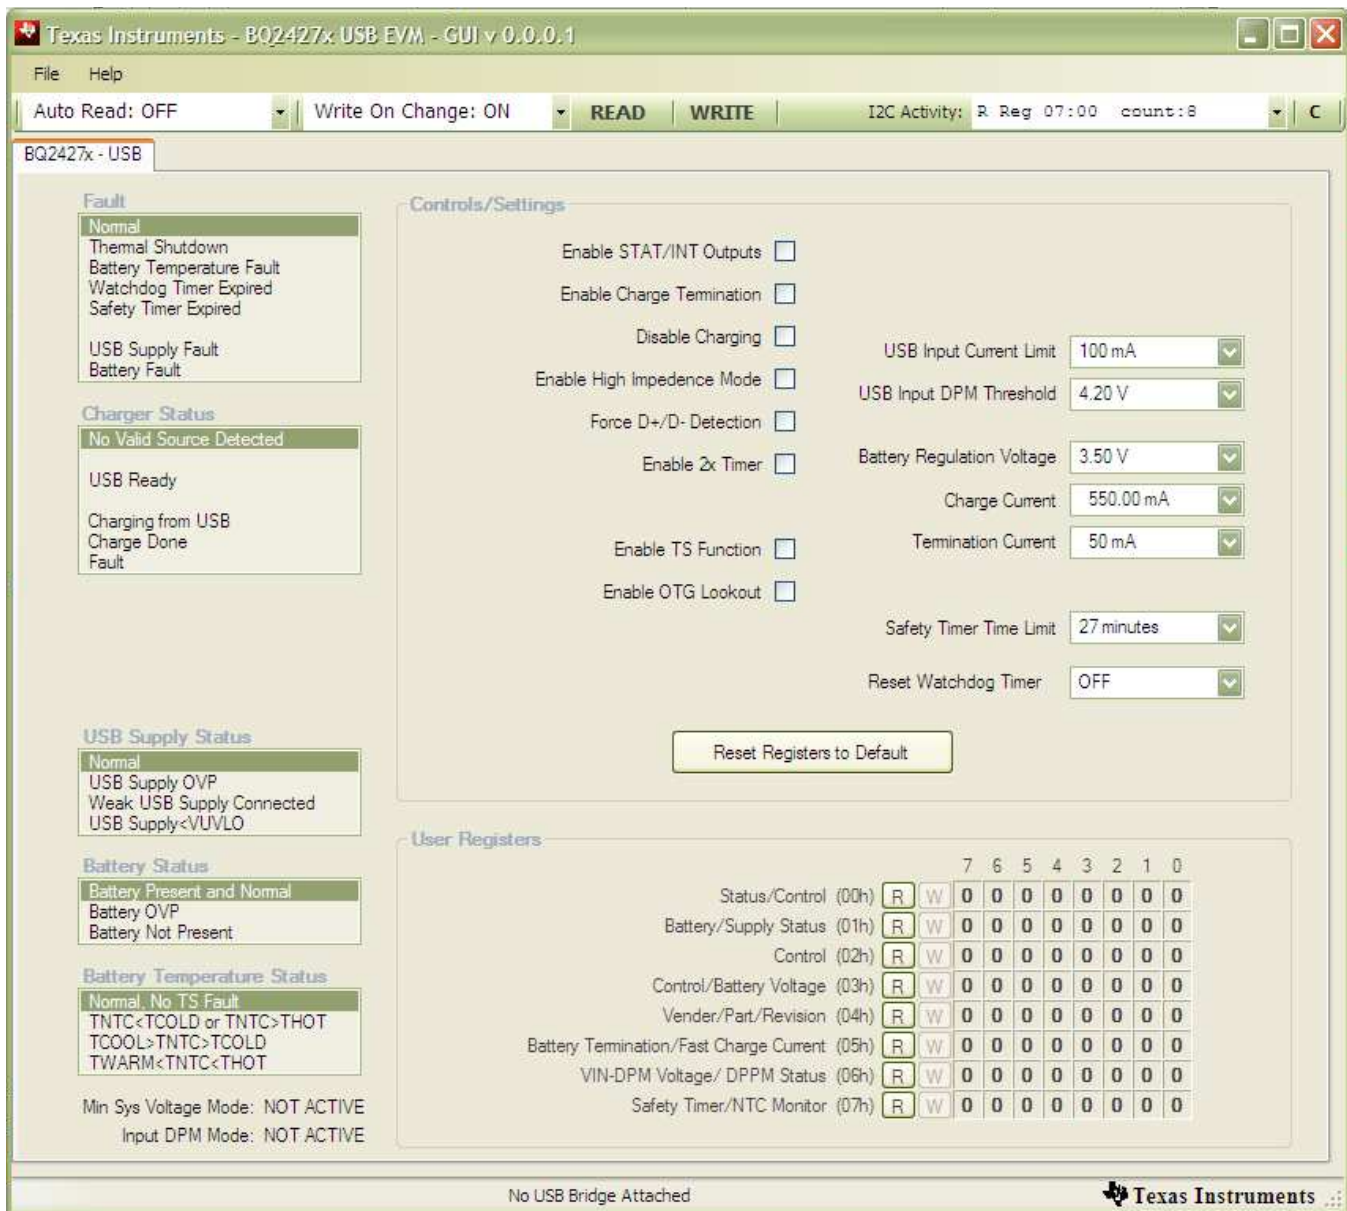

Figure 5. Main Window of bq2427x EVM Evaluation Software
- Open the bq2427x evaluation software and click "USB DEVICE" when prompted at start-up. The main window of the software is shown in Figure 5.